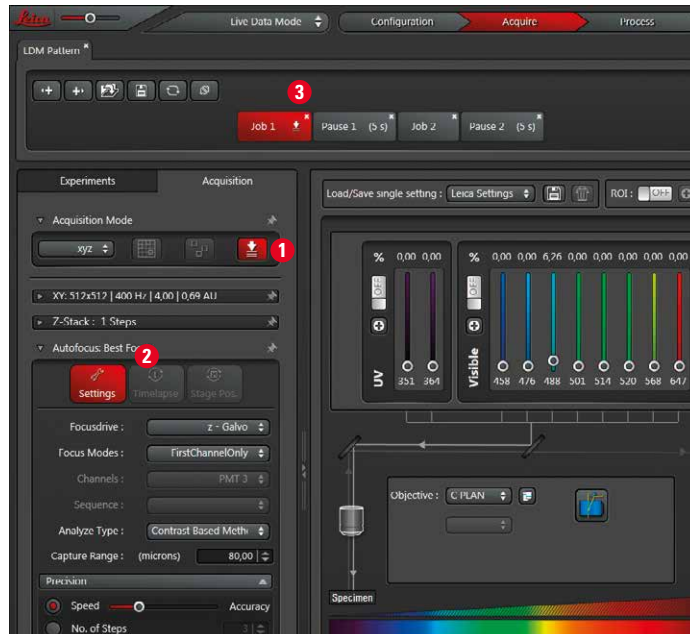

Figure 19 Autofocus/Best Focus window.
3. Click on the **Autofocus** panel (Figure 19, 1). Now the **Autofocus** window (Figure 19, 2) opens and the **Best Focus** function is assigned to the job indicated by a symbol (Figure 19, 3).